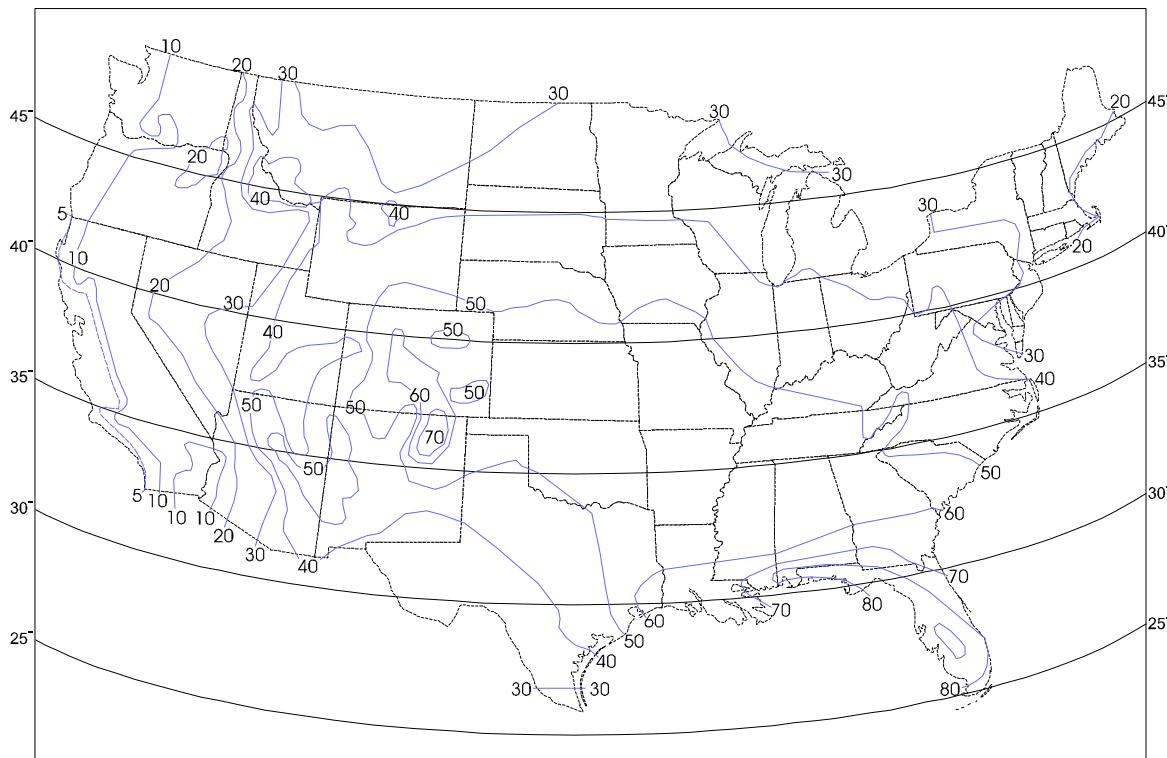

Figure 4-1 - Average Thunderstorm Days of the Year (for Continental USA)
The map of Figure 4-1 shows the average annual number of thunderstorm days (Isokeraunic level) for the various regions within the continental U.S.A. This map is not representative of the severity of the storm or the number of lightning strikes since it does not take into account more than one lightning strike in a thunderstorm day. The Isokeraunic or Isoceraunic number provides a meteorological indication of the frequency of thunderstorm activity; the higher the Isokeraunic number the greater the lightning strike activity for a given area. These levels vary across the world from a low of 1 to a high of 300. Within the United States the Isokeraunic level varies from a low of 1 to a high of 100.
1. Using the map of Figure 4-1 (or a comparable meteorological map for your local), find the Isokeraunic level (I) for your area. Then using Chart 1, find "A" for your area.
2. Refer to Figure 4-1 to find the latitude. Then using Chart 2, find "B" for your latitude (Lat. $^{\circ}$).